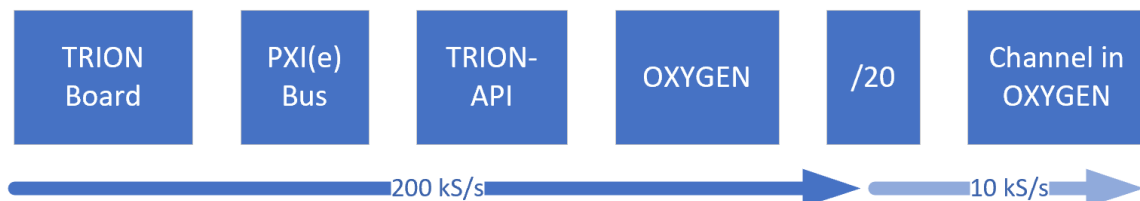

Fig. 7.39: Working principle for the channel-wise sample rate reduction
- A point can be removed by clicking on the – button (see Fig. 7.39)